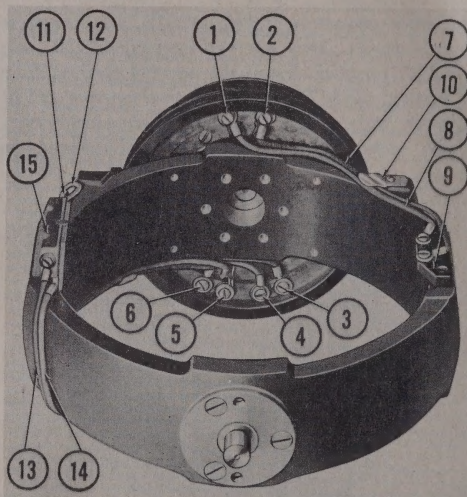

Figure 272 — Cardan Wiring
4. (See figure 272.) Hold up the base and drum assembly with the two tapped terminal screw holes in the base at the top, as shown in figure 272. Starting with the left-hand hole at the top, number the terminal screw holes clockwise, 1, 2, 3, 4, 5, and 6.
6. Coat the grooves in the slip-ring and resistance base (11) with shellac. Wrap the resistance coils around the base so that they fall in the grooves provided, taking care not to bend the resistance coils out of shape and making sure to insert the ends of the coils through the small holes in the base provided for this purpose. The two ends of the bottom resistance coil attach to terminal Nos. 3 and 4 (figure 272,) which are immediately adjacent to the holes through which the ends of these coil wires project to the inside. Using a 4-40x $\frac{1}{4}$ -inch binding-head screw and flat washer, attach the one end of the bottom resistance coil and one lug of a black lead wire $7\frac{1}{4}$ inches long to terminal No. 3. The resistance wire end should be placed in between the washer and the lug so that it will not twist off in tightening down the terminal screw. Using a 4-40x $\frac{5}{16}$ -inch binding-head screw and two flat washers, attach the lug of a red lead wire $6\frac{3}{8}$ inches long and the other end of the bottom resistance coil and the lead wire from the top slip-ring to terminal No. 4. Place the flat washers between the wires to assure good contact. In the same manner, fasten one end of the upper resistance coil, the lug of a red lead wire 9 inches long, and the lead wire from the next to the top slip-ring, to terminal No. 5. The remaining wire from the top resistance coil, together with one lead of a black lead wire 9 inches long, is fastened with a 4-40x $\frac{1}{4}$ -inch binding-head screw to terminal No. 6. Using a 4-40x $\frac{1}{4}$ -inch binding-head screw and one flat washer, fasten the lead from the next to the bottom slip-ring and one lug of the red wire $5\frac{1}{2}$ inches long to terminal No. 1. Using a 4-40x $\frac{1}{4}$ -inch binding-head screw and flat washer, fasten the lead wire from the lower slip-ring and one lug of a black wire $5\frac{1}{2}$ inches long to terminal No. 2.
8. (See figure 272.) Form the black and red lead wires (7 and 8) from the terminal Nos. 1 and 2 carefully around the edge of the cardan, connecting the red lead wire (8) to the top terminal of the cardan terminal block (9), using a 3-48x $\frac{1}{4}$ -inch binding-head screw with a flat washer, and the black lead wire (7) to the bottom terminal of the cardan terminal block, using a 3-48x $\frac{1}{4}$ -inch screw with flat washer. Lock these wires in place on the edge of the cardan, using a two-wire cardan lead wire clamp (10) and a 2-56x $\frac{1}{4}$ -inch fillister-head screw. Form the black and red lead wires from terminal Nos. 3 and 4 around the edge of the cardan toward the contact plate assembly, so that they will cross over directly under the cardan gear to attach to the two top terminals of the contact plate assembly (15). Fasten the red lead wire (12) from terminal No. 4 to the top terminal of the contact plate assembly, using a 2-56x $\frac{1}{8}$ -inch binding-head screw. Fasten the black lead wire (11) from terminal No. 3 to the remaining terminal on top of the contact plate assembly with a 2-56x $\frac{1}{4}$ -inch binding-head screw. Form the black and red lead wires from terminal Nos. 5 and 6 around the same side of the cardan. Secure all wires from terminal Nos. 3, 4, 5, and 6 with a four-wire clamp fastened to the cardan with a 2-56x $\frac{1}{4}$ -inch fillister-head screw. Then, continue the wires from terminal Nos. 5 and 6 on around the cardan. Secure them to the cardan below the gudgeon pin with a two-wire hold-down clamp block and a 2-56x $\frac{1}{4}$ -inch fillister-head screw. Bring these two lead wires across the cardan; fasten the red lead wire (14) to the bottom terminal of the contact plate assembly using a 2-56x $\frac{1}{8}$ -inch binding-head screw, and the black lead wire (13) to the remaining contact on the bottom of the contact plate assembly, using a 2-56x $\frac{1}{4}$ -inch binding-head screw.